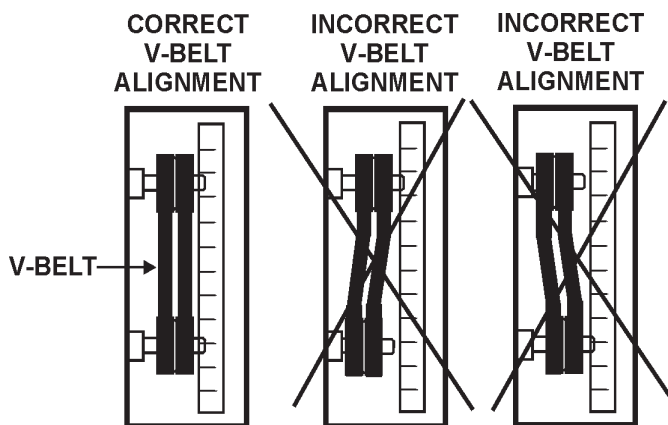

Figure 15. Pulley Alignment
2. Check uniform parallelism (Figure 15) of V-belts and pulley (sheaves). Use a straight edge or machinists's square against both pulleys and adjust both pulleys until equally aligned.